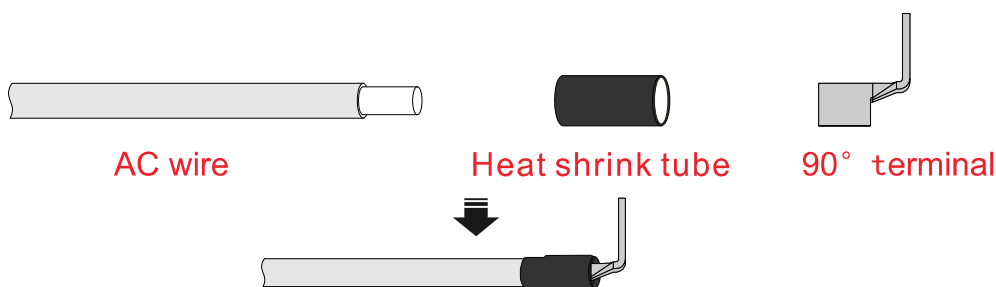

Figure3-35 Stripping diagram of external AC wire (unit: mm)
Step 3 Insert the AC wire into the equipped 90° terminal and crimp them by crimping tool, as shown in Figure3-35.